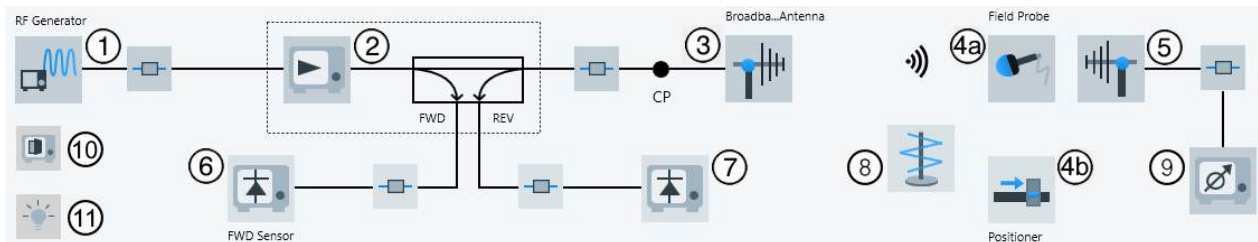

Figure 4-158: EMS hardware setup diagram (radiated) for a Reverberation Chamber in Calibration View
- The "Calibration View" (see Figure 4-158)